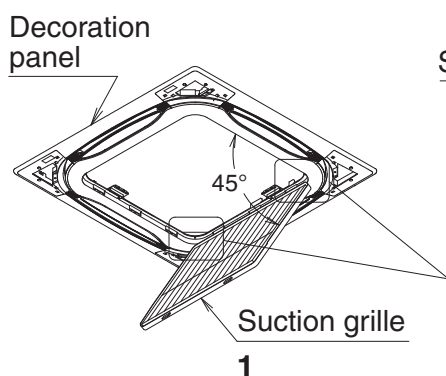

Fig. 10
- 1 Hook on the suction grille into 3 hooks of the decoration panel by lifting the grille up approximately 45 degrees. (Refer to Fig. 10)